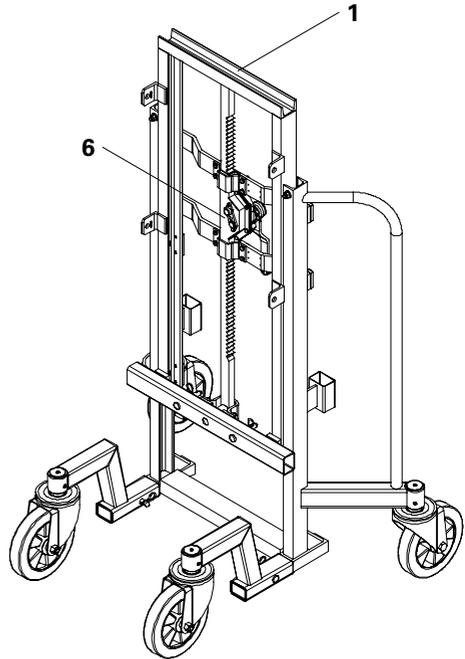

Fig. 33
The Winch (6) as well as the Trolley with Winch (1) is a unit for the lifting and lowering of loads which is operated through the use of muscle power. The load can be securely held at any position through the integrated brake. (Fig. 33)